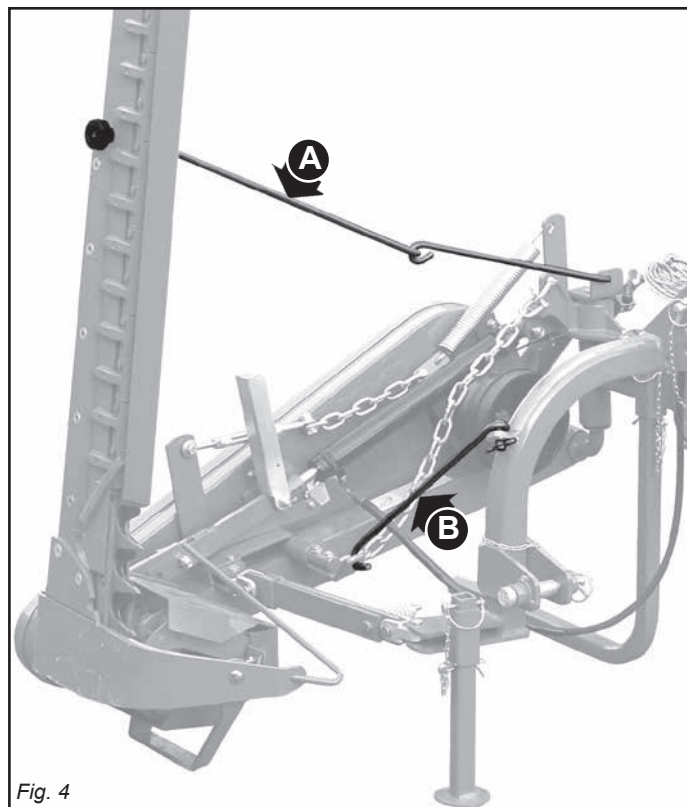

Fig. 4
- 34) Fix the hide lift links with the relative chains and idlers during the transport phase; raise the cutter arm; fix it in place with the rod (A, Fig. 4); insert the safety hook (B, Fig. 4); cover the cutters and outer skid with the relative guards; raise the mowing bar; set the control lever of the hydraulic lift to the locked position with the implement raised.